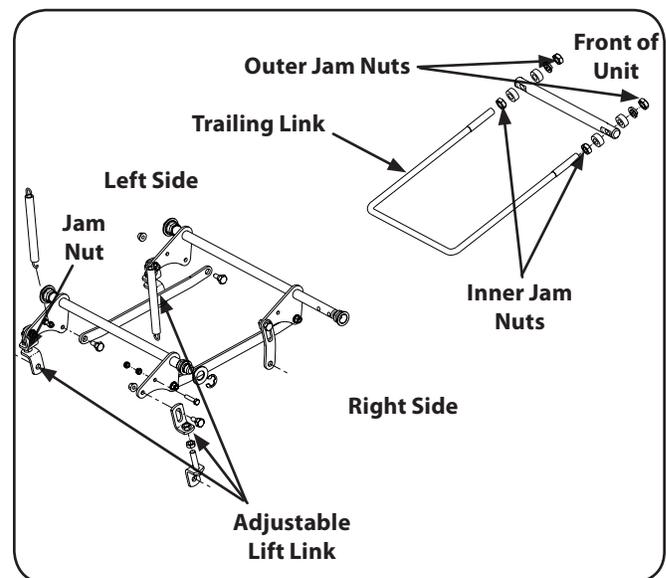

Figure 6-6
5. With a ¾" wrench loosen the lower jam nut of the left side of the lift link. To adjust the side of the deck up or down turn the upper jam nut clockwise (to raise) or counter clockwise (to lower) a few turns. See Fig. 6-6.
8. The final adjustment would be to set the Trailing Link by adjusting the jam nuts on the threaded link. Loosen the jam nuts and tighten the inner nut to achieve the correct length and belt tension. See Fig. 6-6.
To tighten or loosen the tension on the belt, tighten or loosen the jam nuts on the U-rod, see Fig. 6-6, until a ten-pound pull with a spring scale deflects the belt about $\frac{1}{2}$ ".